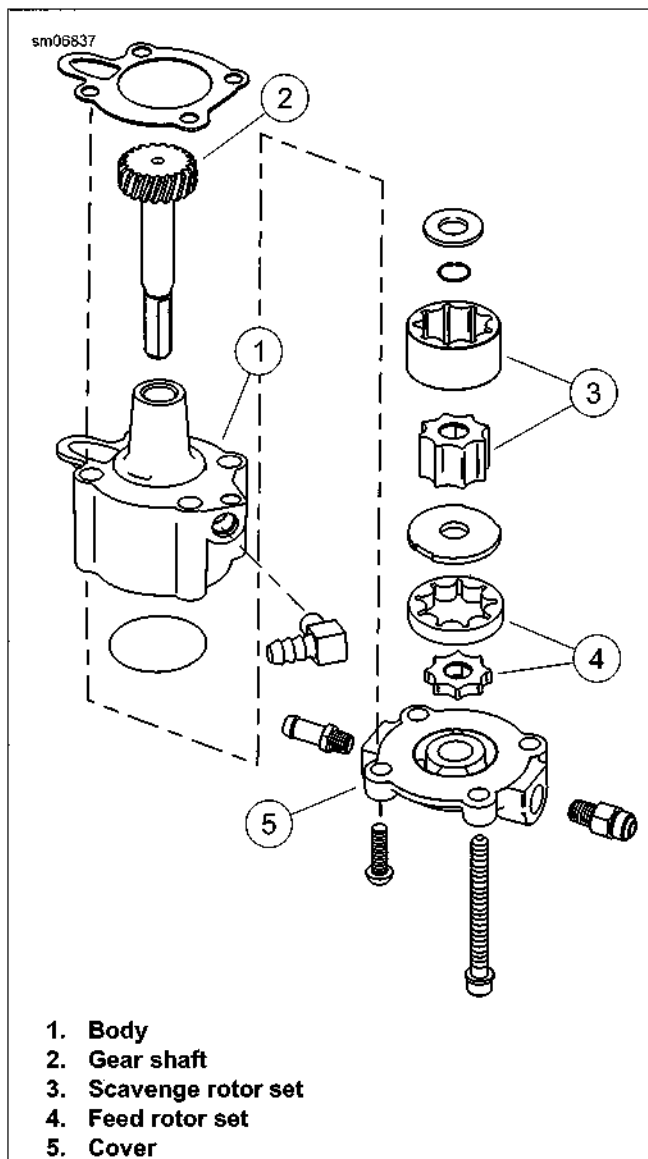

Figure 3-6. Oil Pump
See Figure 3-6. Both rotor sets (3, 4) are driven off a common shaft (2) that is coupled by gears to the crankshaft.